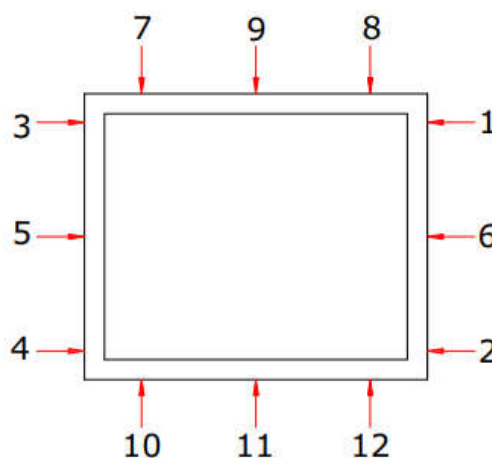

Figure 6 Sequence of the fixing points for fixed glazing
5. Level the right side of the frame and drill the first fixing point through frame. The correct sequence of the fixing points is shown in the figure 6.
6. Fix the frame with remaining fixing points (Figure 6). Support blocks must be added next to every fixing point. Tighten the screws.